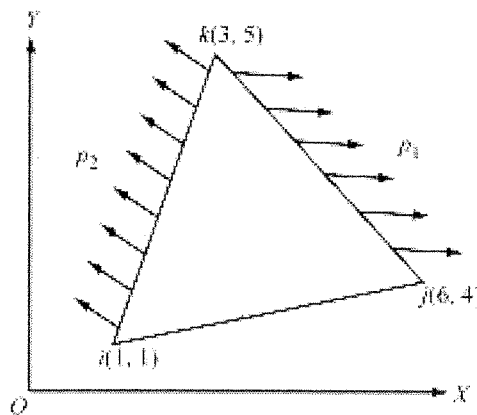

Figure Q4 The coordinates in mm  $i(1,1)$ ,  $j(6,4)$  and  $k(3,5)$
b) Derive the stiffness matrix and system of equations for the triangular plate shown in Figure Q4 using a CST element.  $E=200$  GPa,  $\nu=0.3$ , thickness=5 mm,  $P_1=5$  N/mm2 acting on side  $jk$  on  $x$  direction,  $P_2=2$  N/mm2 acting on side  $ik$  and perpendicular to side  $ik$ , Consider plane stress conditions.